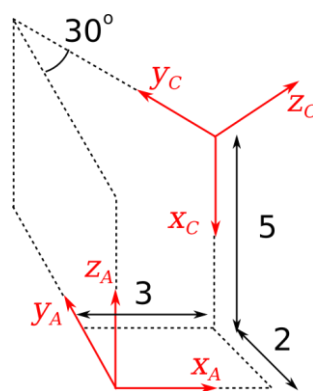

Figure 1
- b) For the two frames in the figure below (Fig. 1) do the following: